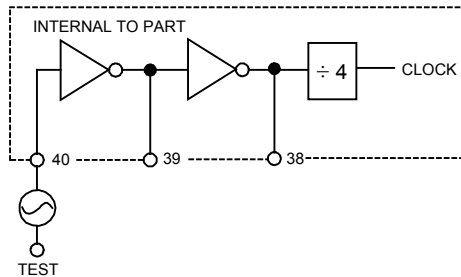

FIGURE 6A
1. Figure 6A. An external oscillator connected to pin 40.